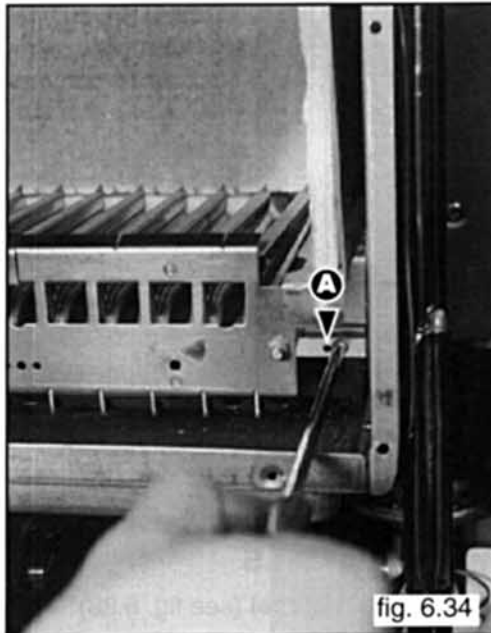

fig. 6.34
- 4 Remove the 4 screws "A" using a PHILLIPS No.2 star tip screw-driver (see fig. 6.34);